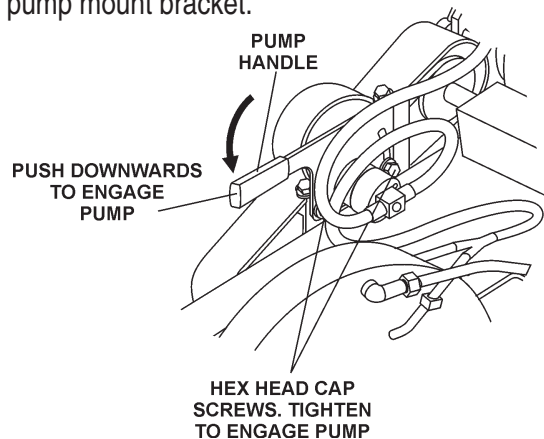

Figure 12. Pump Engage
1. Loosen the 2 hex head cap screws (Figure 12) that secure the pump mount bracket.